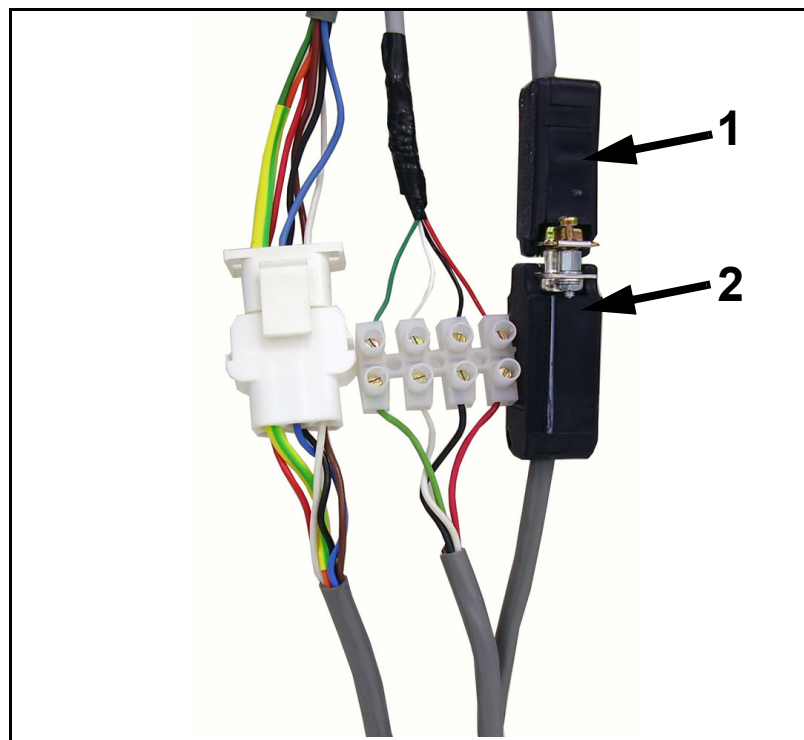

Figure 2-18. AEC Cable
- 1 Connect the AEC cable (1 in Figure 2-18) to the system AEC cable (2).